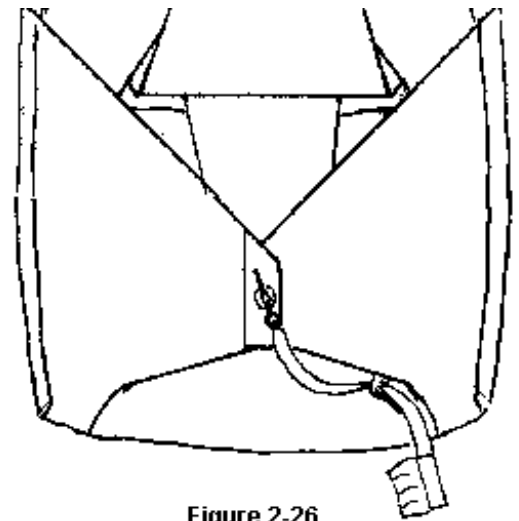

Figure 2-26
Step 30 Close the #3 right side flap, then the #4 left side flap, securing the closure pin as shown in *Figure 2-26*.